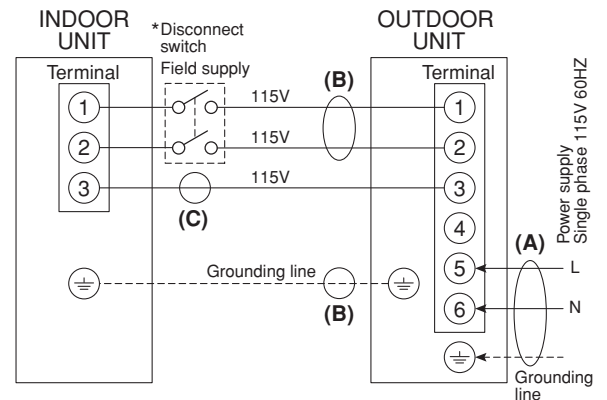
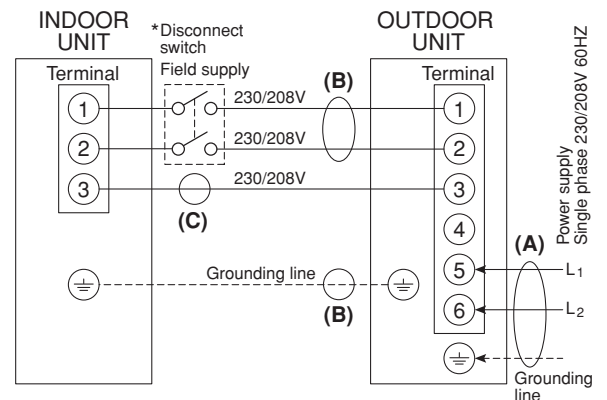

Fig. 7a
Fig. 7b
Refer to the wiring system diagram (Fig. 7a or Fig. 7b) for the meaning of (A), (B) and (C) in Table 4.